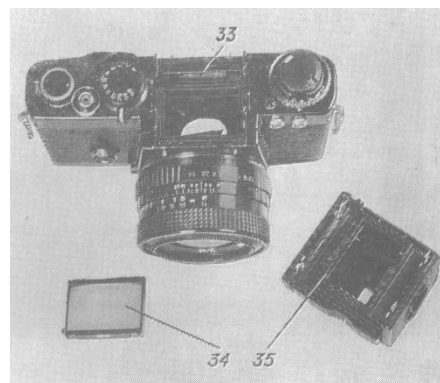

Figure 8
There is opportunity of use of replaceable focusing blocks (34) (see fig. 8) of various types is stipulated:
To change one focusing block with another one, remove the block of viewfinder with pentaprism (35) from the camera body, by simultaneous pressing (in direction pointed by arrow) the lock button and lock lever (27) (see fig. 4). To take out the focusing block (34) (see fig. 8), press the button (26) (see fig. 4) and, simultaneously having camera covered by your hand, incline it so that the focusing block has dropped out on your palm; do not touch surface of the block which is directed to mirror.
To insert the focusing block, take it for lengthwise sides and, having pressed the button (26), insert the block by the narrow side into shaft slot (33) (see fig. 8). Then insert the block of viewfinder with pentaprism, simultaneously pressing the button and the lever (27) (see fig. 4), then turn the lever (27) counter-clockwise against the stop.